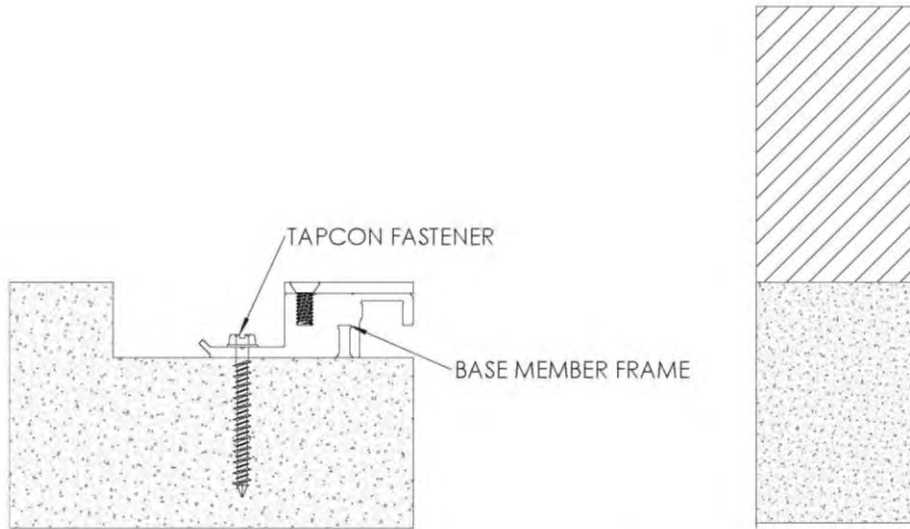

FIGURE 1
1. Position base member frame in blockout per shop drawings. Using the frame as a template, mark and drill  $5/32"$  holes for Tapcon fasteners. Install base member frame to the blockout opening with fasteners, making sure not to over tighten. **See Figure 1**